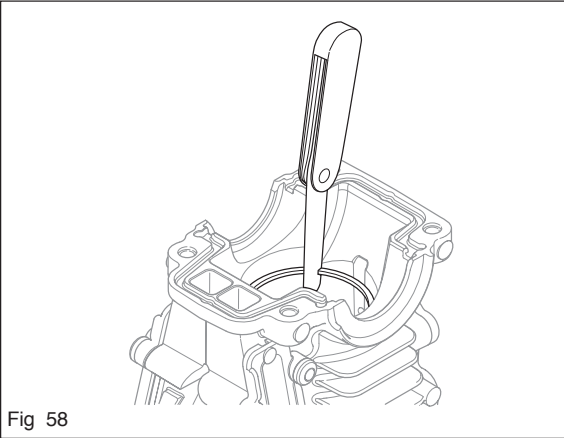

Fig 58
- Measure piston ring wear. This should not exceed 1 mm (see figure 58). Use the piston to push the piston ring for correct alignment.